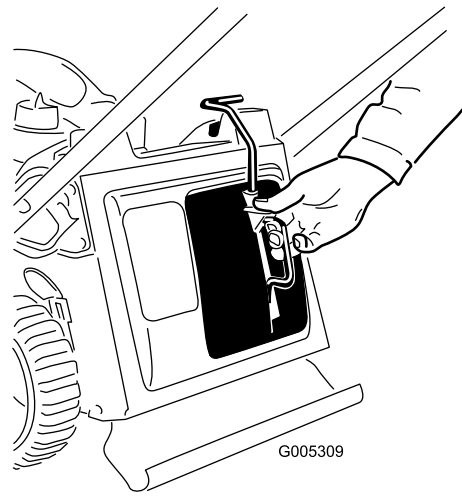

Figure 19
1. Remove the mulch plug (Figure 19).